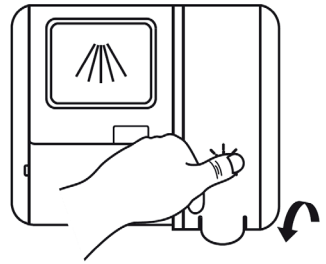

Fig. 5
4. After filling close the rinse aid dispenser cover (Fig. 5).